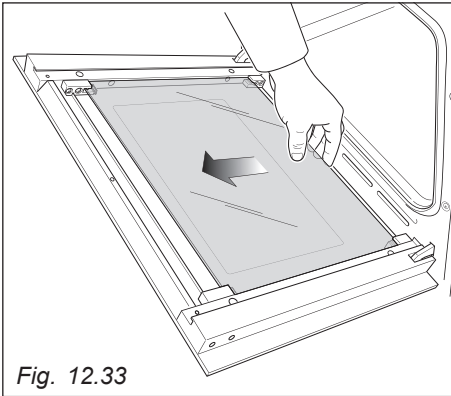

Fig. 12.33
- Gently unlock the middle pane of glass from the bottom clamps by moving it as in fig. 12.33.